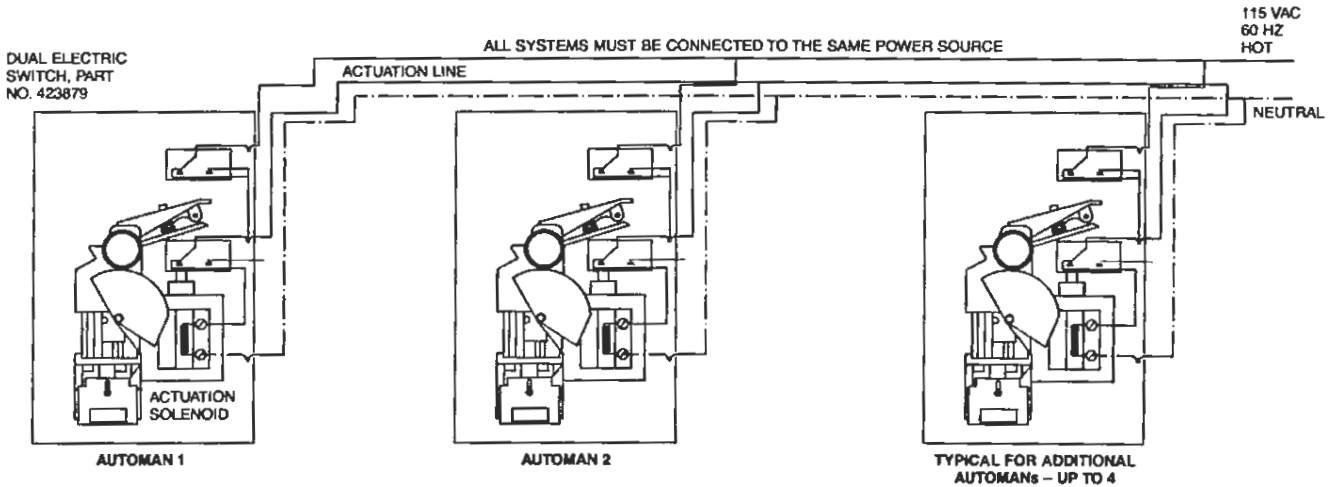

FIGURE 3
In the case of multiple hoods sharing a common exhaust duct, NFPA 17A requires one of two forms of simultaneous operation. The following wiring diagrams (See Figures 3 and 4) identify two principle uses for the 120 VAC Electric AUTOMAN Regulated Release Assembly. Refer to Components Section, Page 3-1, Figure 3.
1. Simultaneous operation of all independent hood, duct, and appliance protection systems. See Figure 3.